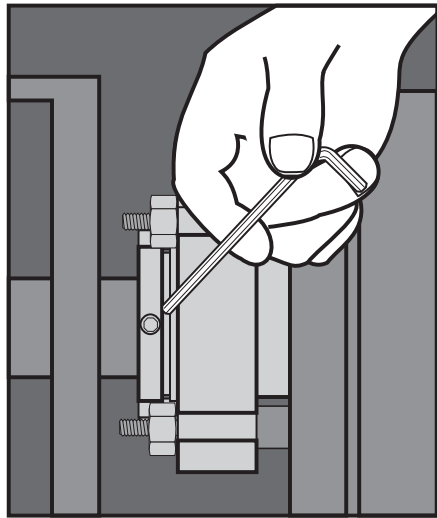

Figure 4
- 2.9 With the impeller, shaft, coupling and bearings in their final operating position, tighten the drive collar set screws. See Figure 4.